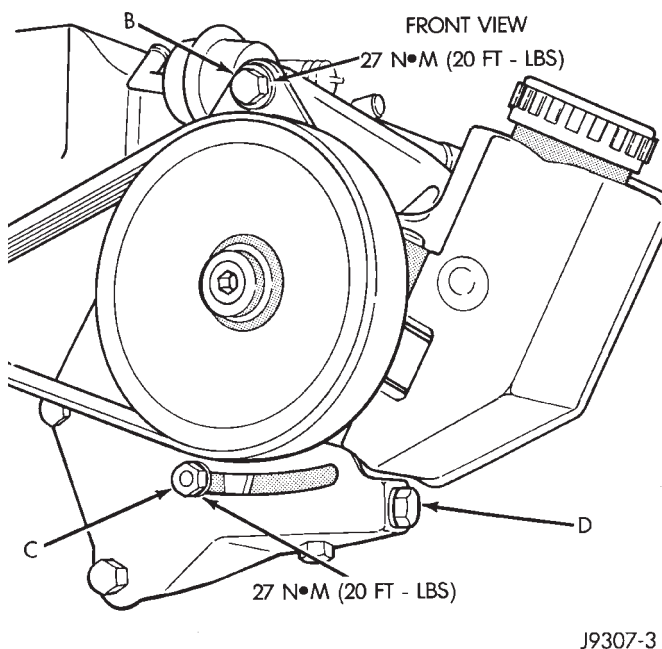

Fig. 5 P.S. Pump Front Mounting Bolt/Locknut—4.0L Engine
(b) Loosen upper pump pivot bolt B and lower lock nut C (Figs. 5 or 6).
(8) Remove locknut C and belt adjustment bolt D (Figs. 5 or 6).
(9) Remove bolt B (Fig. 5). Position power steering pump to the side. Hold pump in position with wire. Do not disconnect hydraulic lines from pump.
(9) Position power steering pump to mounting bracket. Install pivot bolt B (Fig. 5) finger tight. Install locknut C and adjustment bolt D (Figs. 5 or 6) finger tight.
- (15) Tighten pivot bolt B (Fig. 5) to 27 N•m (20 ft. lbs.) torque.
- (16) Tighten locknut C (Fig. 5) to 27 N•m (20 ft. lbs.) torque.
- (17) After the power steering pump has been tightened, recheck belt tension.
- (18) Fill cooling system with coolant and check for leaks. Refer to Refilling Cooling System in this group.
- (19) Connect battery cable to battery.
- (20) Start and warm the engine. Check for leaks.